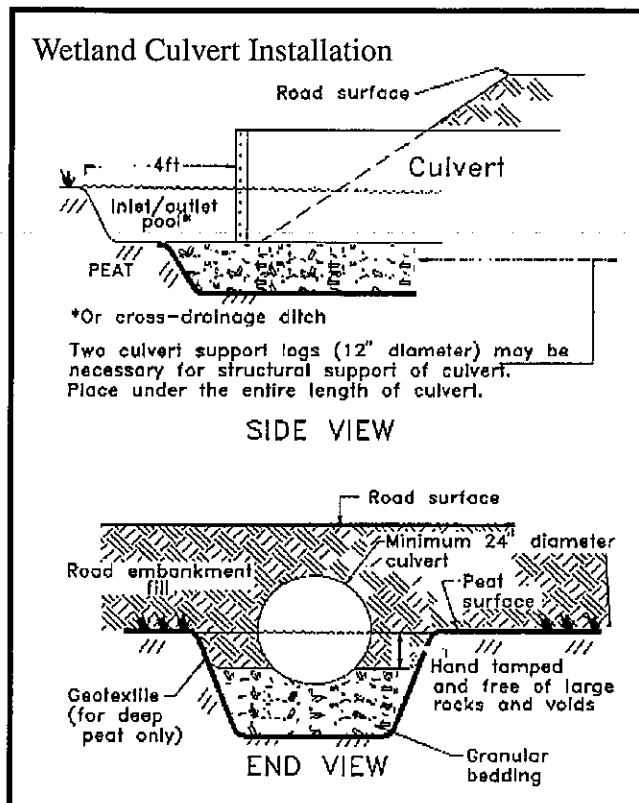

Figure ROAD-16
- ✓ **Install culverts that are a minimum of 24 inches in diameter** buried halfway below the soil surface. The upper half will handle surface storm flows and the lower half will handle normal subsurface flows. Failure to bury the lower half of the culvert will cause subsurface water to pond on the upstream side of the road and kill trees. See Figure ROAD-16.
- ✓ **Install culverts that are a minimum of 24 inches in diameter** buried halfway below the soil surface. The upper half will handle surface storm flows, and the lower half will handle everyday subsurface flows. Failure to bury the lower half of the culvert will cause subsurface water to pond on the upstream side of the road and kill trees. See Figure ROAD-16, page 39.